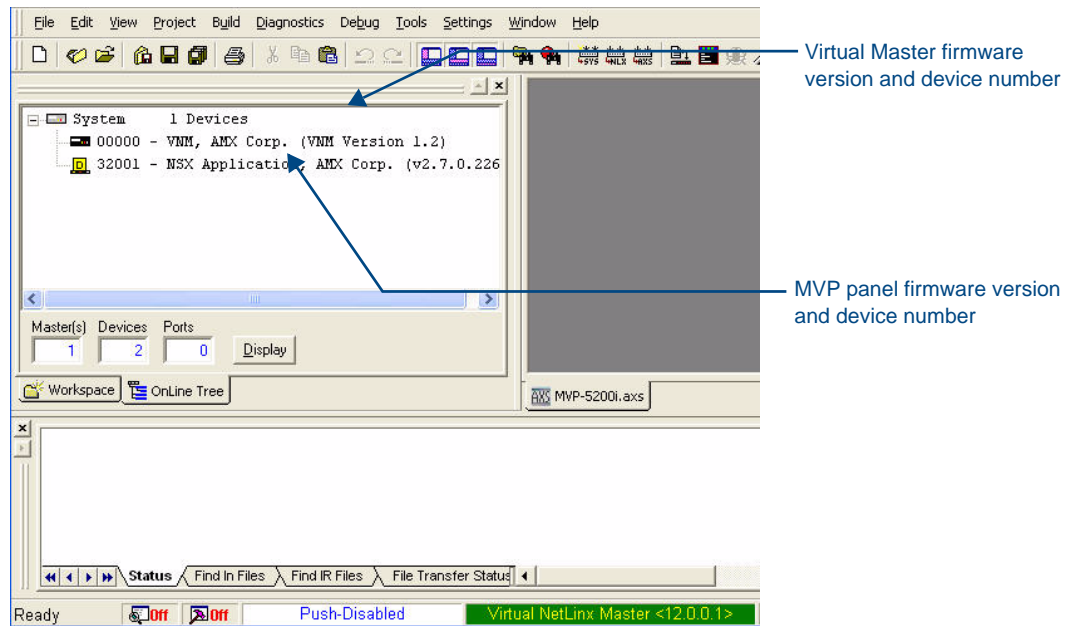

FIG. 101 NetLinx Workspace window (showing panel connection via a Virtual NetLinx Master)
3. After the *Communication Verification* dialog window verifies active communication between the Virtual Master and the panel, click the **OnLine Tree** tab in the Workspace window (FIG. 101) to view the devices on the Virtual System. *The default System value is 1.*
- Right-click on the System entry (FIG. 101) and select **Refresh System** to re-populate the list. Verify the panel appears in the **OnLine Tree** tab of the Workspace window.